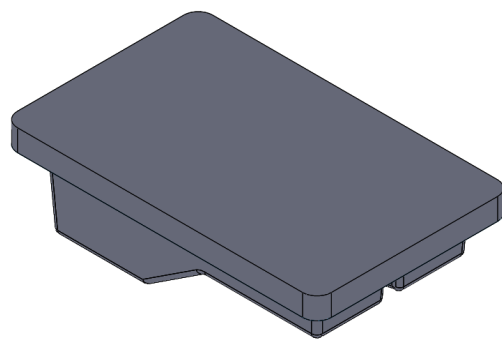

Figure 21-46 Resultant Core
10. Extrude the sketch up to the knitted surface and hide it. Figure 21-46 shows the resultant core extracted from the plastic cover.